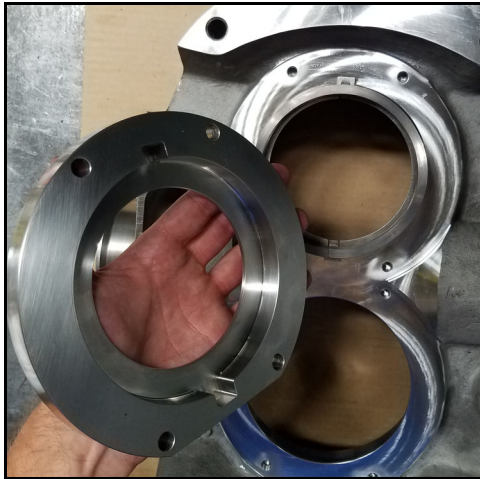
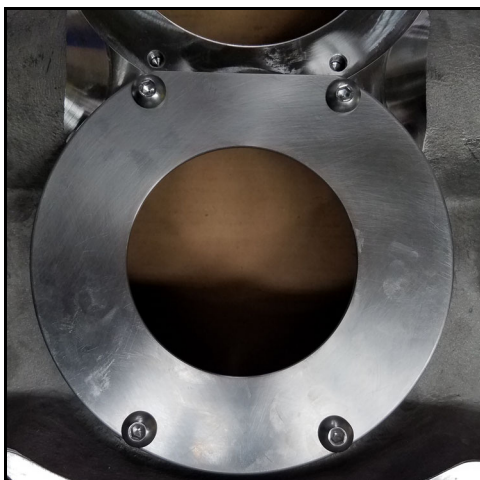

Figure 66 - Install seal housing
Figure 68 - Seal housing installed
5. Install the seal housing as shown in Figure 66. Align the notches in the seal housing with the tabs on the drive ring (installed in step 3 on page 42). Make sure the flat side of the seal housing is positioned between the bores (shown installed in Figure 68).
8. Figure 68 shows the seal housing installed.